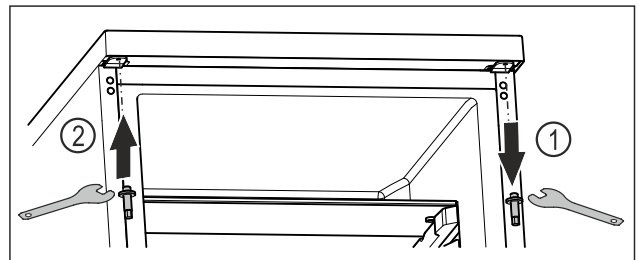

Fig. 21
- Unscrew the upper bolt with an Allen key. Fig. 21 (1)
- Tighten the bolt on the opposite side with an Allen key. Fig. 21 (2)